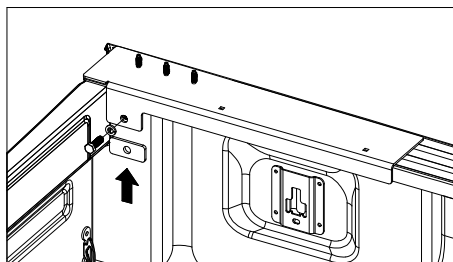

Figure B5
- 2. Install 1/2" hardware:** Place the bed protectors back on the bed sides, as shown in Figure A1. Locate the 1/2" cap screw, 1/2" lock washer and 1/4" thick spacer block. Place the spacer block between the flange of the bed protector and the outside of the stake pocket. With the lock washer on the 1/2" cap screw, pass the cap screw through the hole in the flange of the bed protector and spacer block, see Figure B5. Thread the cap screw into the mounting bracket installed earlier. Once the cap screw is most of the way in, push the bed protector towards the cab, then tighten the 1/2" cap screw to 80 ft-lbs.